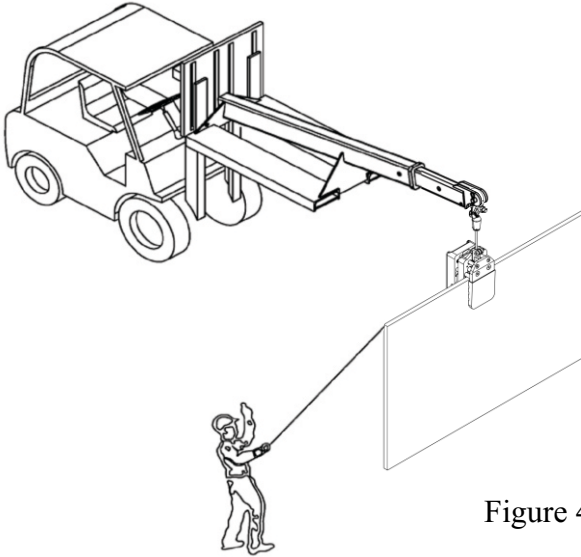

Figure 4.1
Step 4: Move the slab to the desired location (Figure 4.1).